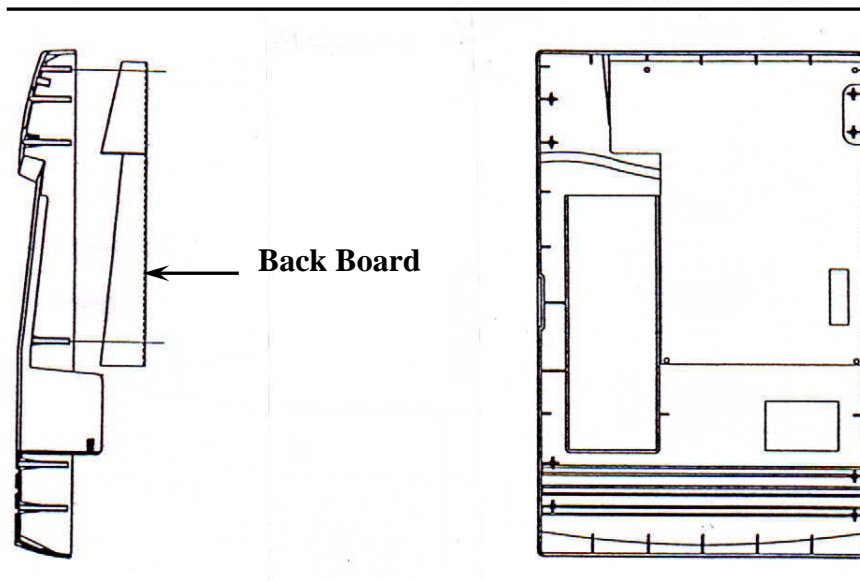

Figure 3-2. LCD Module Replacement 1.
2. Remove the four screws on the front panel back board (Figure 3-2).
6. Fasten the four screws on the front panel back board (Figure 3-2).
2. Remove the front panel back board (Figure 3-2).
5. Fasten the four screws on the front panel back board (Figure 3-2).